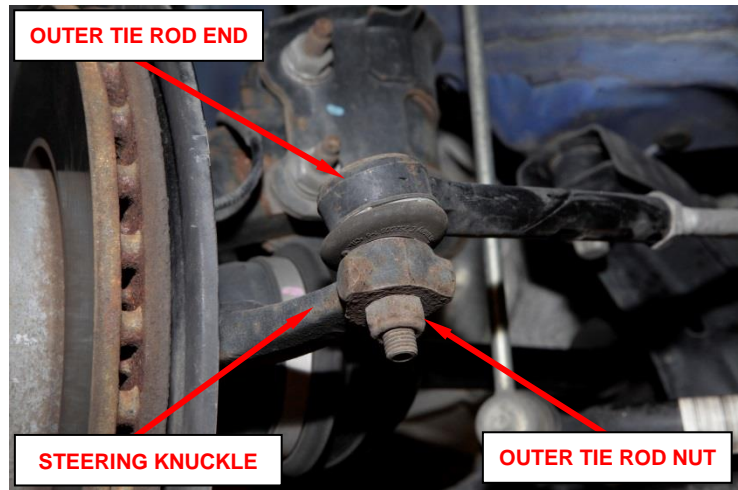

Figure 36 – Outer Tie Rod End
34. Remove the nut securing the outer tie rod end to the steering knuckle and **DISCARD**. The used tie rod end nut is not reusable (Figure 36).